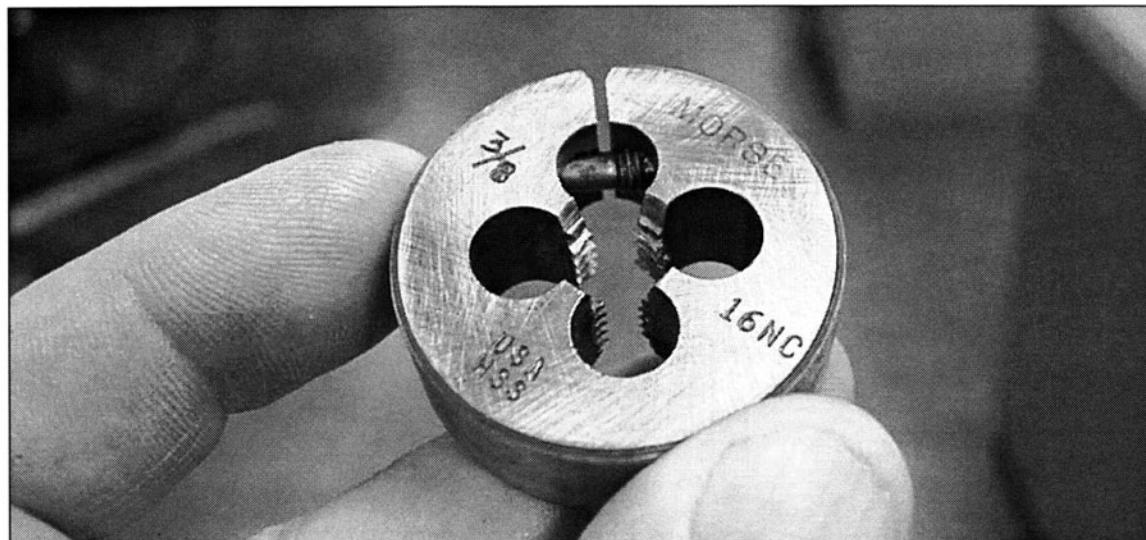

FIGURE 8-2 Adjustable die buttons allow for roughing and finishing a thread to the correct pitch diameter.
3. *Purchase high quality, adjustable die buttons. (See Fig. 8-2)*